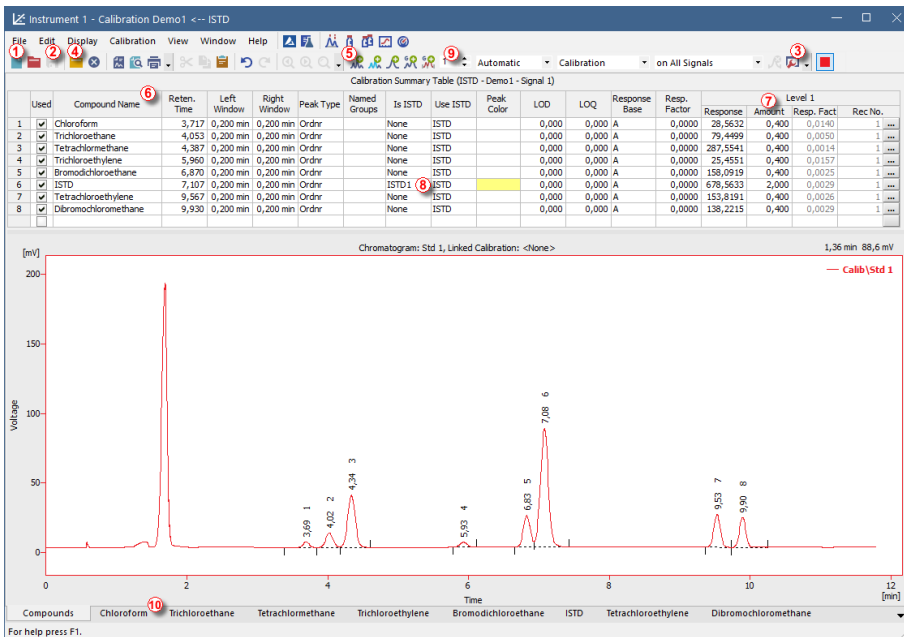

Fig 17: Calibration window - loaded standard
- Use the **Add All** icon (blue) ⑤ to move all identified peaks to the calibration table. The Calibration table appears in the **Calibration** window, ready to be completed as seen on **Fig 17** on pg 29.
- As it can be seen in the calibration, individual peaks are now identified according to their retention times only. Click and edit the fields in the **Compound Name** column ⑥ to those seen on **Fig 17** on pg 29. You may also set the peak color for specific peak, for example the ISTD peak, in the **Peak Color** column can be yellow.
- Fill the **Amount** column ⑦ with the concentration of the particular compounds. In this standard mixture, all compounds except for the peak number 6 have amount of 0.4.
- Peak number 6 is marked as ISTD peak. In the **Is ISTD** column change its type to ISTD1 ⑧ and then set its amount in the **Amount** column to 2.
- The first calibration level is now set. On the tabs of the individual compounds ⑩ (named according to the **Compound Name** field) the graph with single-point linear calibration can be seen.
- Proceed to setting the other calibration levels. The operation is quite simple and straightforward - use the **Open Standard** icon (yellow) ④ again to open another calibration standard named STD 2.PRM. Set the calibration level in the **Current Level** field ⑨ to 2 and use the **Add All** icon ⑤